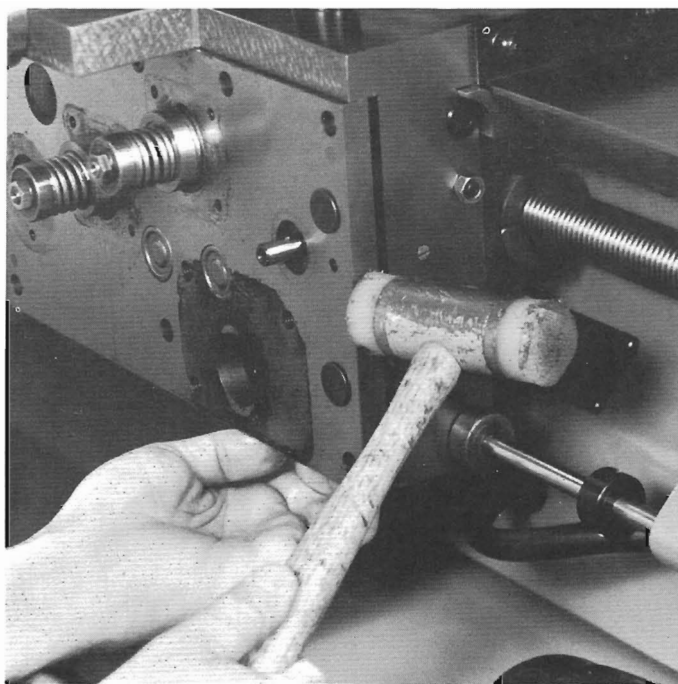

Figure 111 — Apron Cover Removal
8. The apron cover is Permatex sealed. To remove cover, pull with left hand while striking cover with plastic mallet as shown, Figure 111. When crack in sealer appears, rap cover back in place. Repeat procedure, working cover back and forth, until seal is broken and cover can be removed.